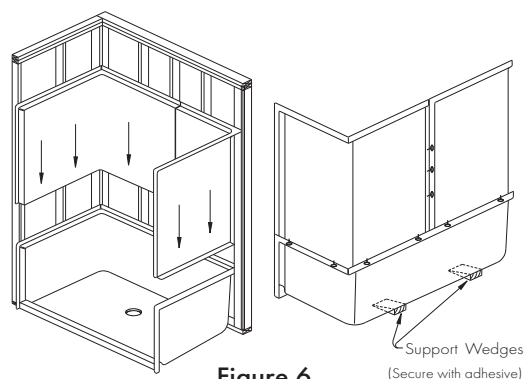

Figure 6
3. Place the walls on top of the base, aligning the slots with the pins. For three piece units, install the valve wall last. Repeat the same for the opposite wall. Make sure the parts are seated in the silicone, and that all seams are even and in alignment. Press all seams together to assure a tight fit. Wipe away any excess caulk before it cures. See Figure 6.